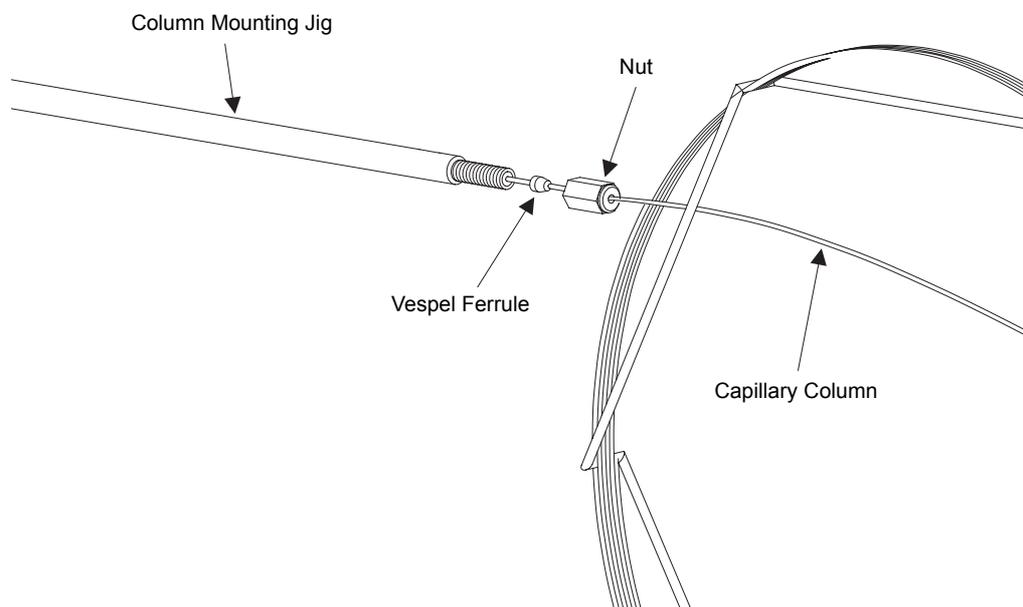

Figure 2.9 Using the Column Mounting Jig
- (1) Push the capillary column through the Vespel ferrule and nut. Refer to Figure 2.9 "Using the Column Mounting Jig".